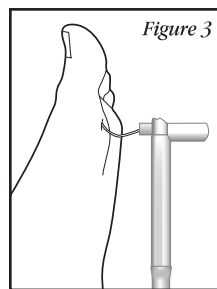

Figure 1 Hand Test Sites
4. For hand and foot evaluation and screening, use the sites indicated in Figures 1 and 2.